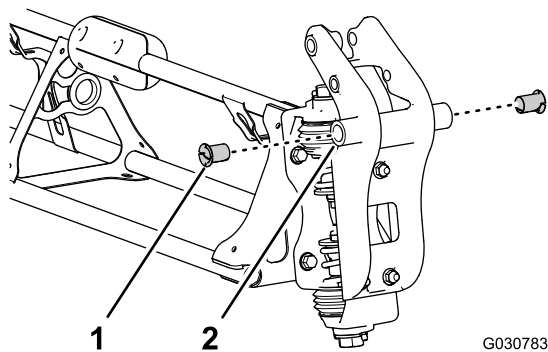

Figure 99
2. Insert a nylon-flange bushings into the 31.8 mm (1-1/4 inches) hole in each side of the pivot fitting (Figure 99).